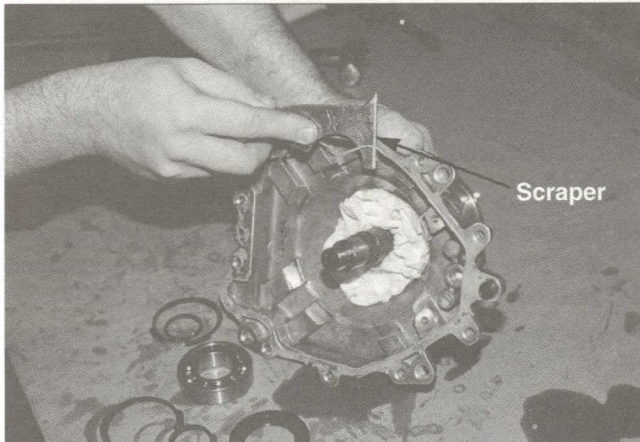

FIGURE 21.
21. Before reassembly, clean the housing and remove old gasket material. Use a rag to protect the bearing before cleaning to avoid damage. Take a paint scraper or other tool and remove all gasket material. Do this to both housing halves and then wipe down the mating surfaces to remove any grease or oil from them. See figure 21.